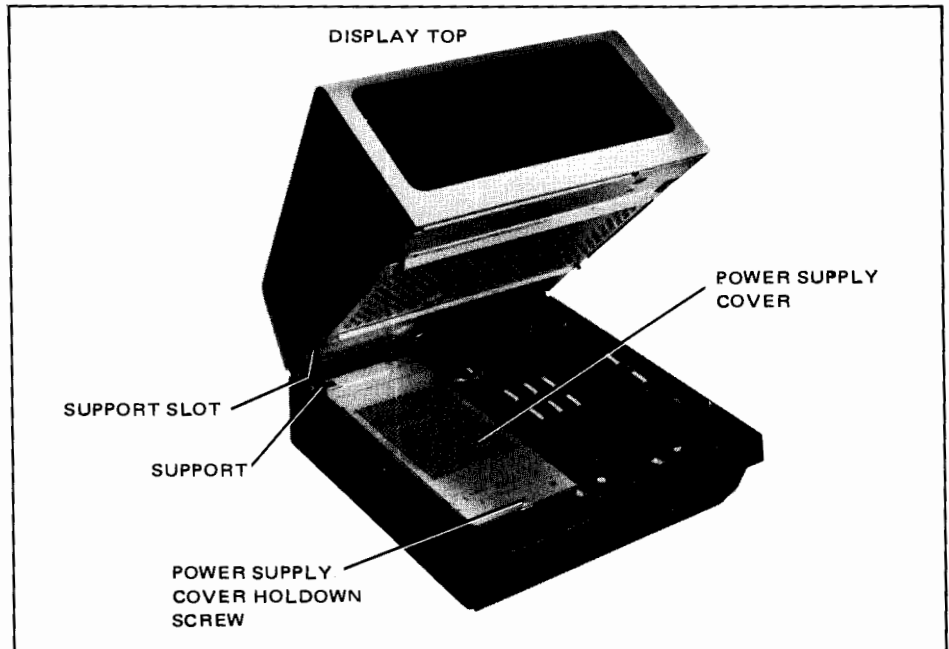

Figure 2-2. Terminal in Half-Open Position
3. Press inboard on the support to allow it to enter the slot designed for it in the CRT shield (figure 2-2).
3. Remove power supply cover by removing the hold-down screw at the front of the cover (figure 2-2) and pulling the cover up and out of the mainframe.